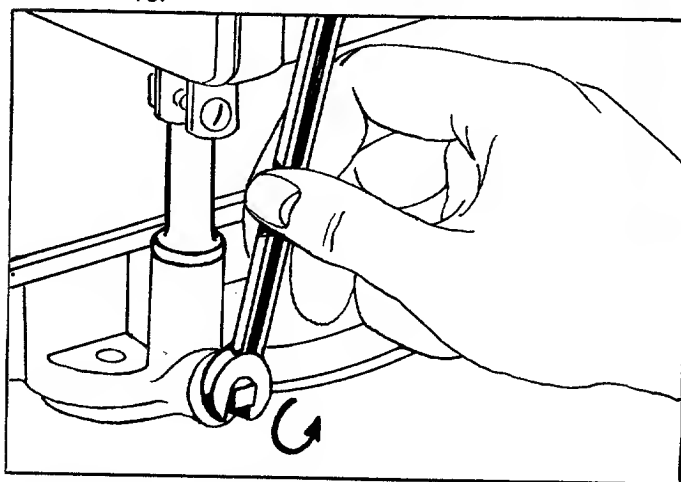

FIGURE 16. OIL DRAIN
After the first five hours of operating a new engine, drain the oil (See figure 16.) from the crankcase while engine is still hot and refill crankcase with new oil; thereafter change the oil every 25 hours of operation. This procedure ensures for minimum wear of engine parts and provides for virtually trouble-free operation. To change the oil, proceed as follows:
Step 1. With the machine on level ground, place a suitable metal container under the oil drain plug, then remove the drain plug. See figure 16.